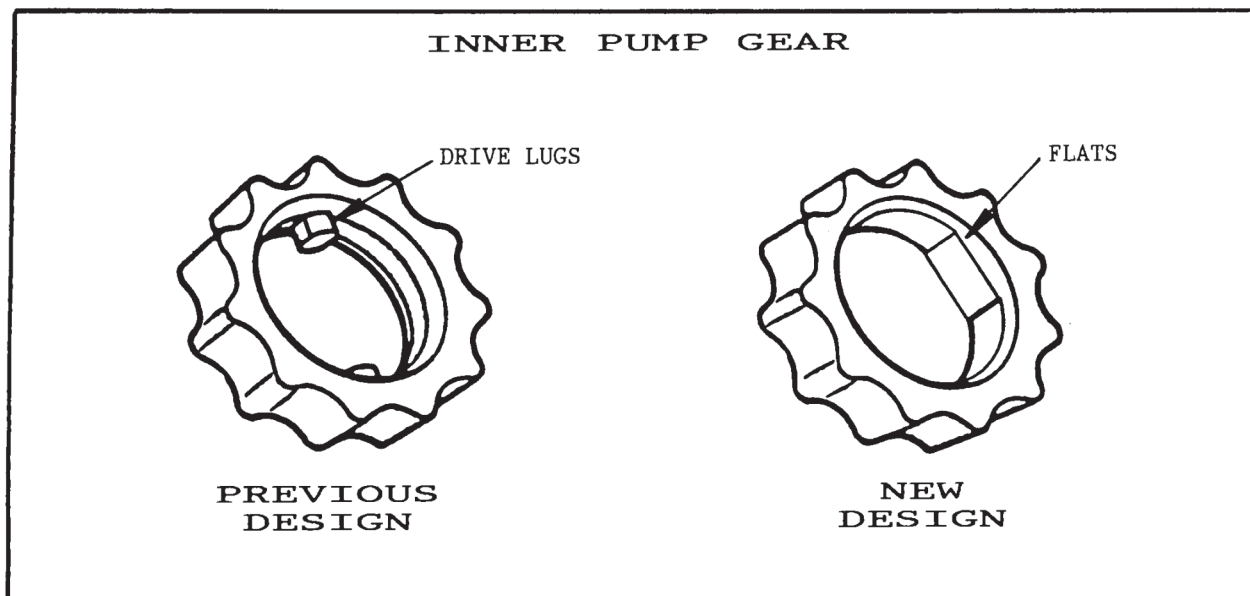

Figure 47
8. Note that the inner gear used in the 42RE oil pumps has a new design drive lug. The new design uses "Flats", as opposed to the previously used square lug (See Figure 47).